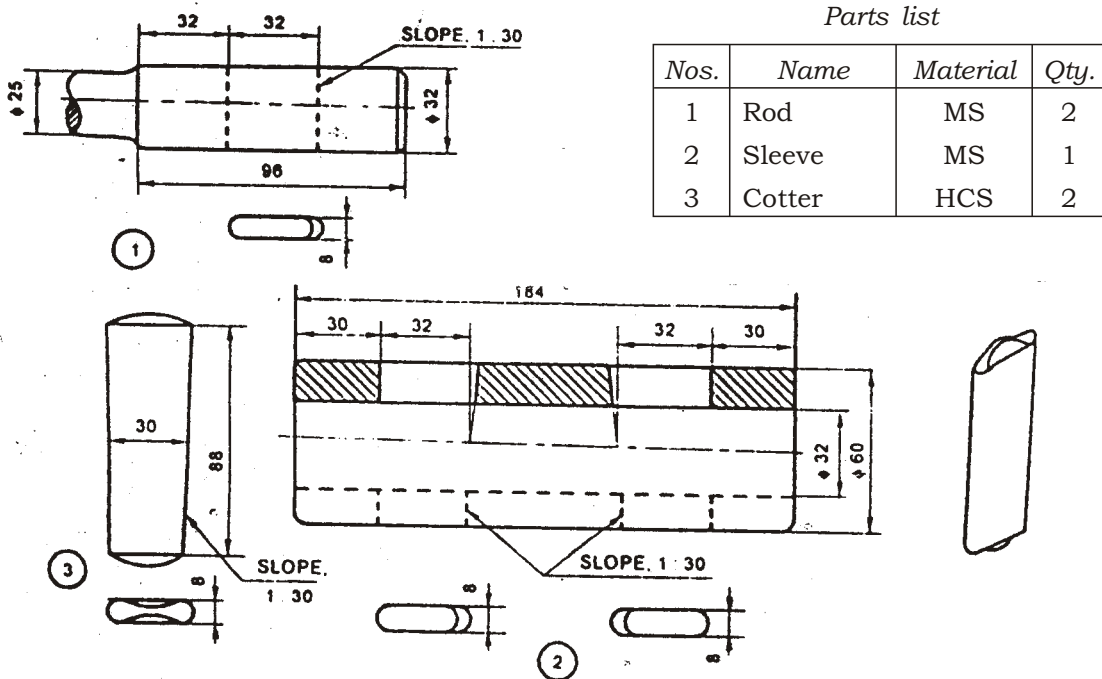

Fig. 2 : Cotter joint with sleeve
6. Assemble the two rods, sleeve and the cotters shown in Fig. 2 and draw the following views :